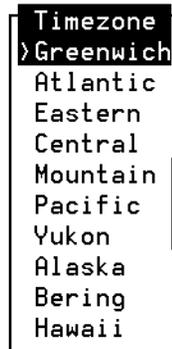

Figure 3-18. UNIX Time Zone Choices Menu
1. Press **CHOICES** (F2) to display the list of time zones (Figure 3-18).